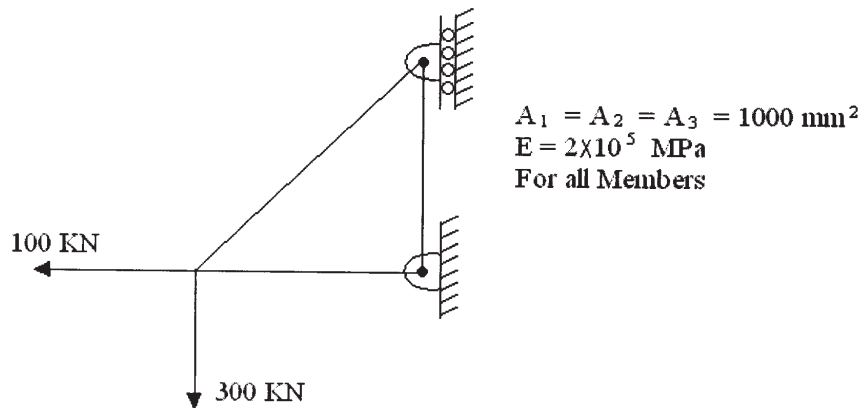

Fig. 2
b) Obtain the deflections in global co-ordinate systems for the truss shown in Fig.2 [4]